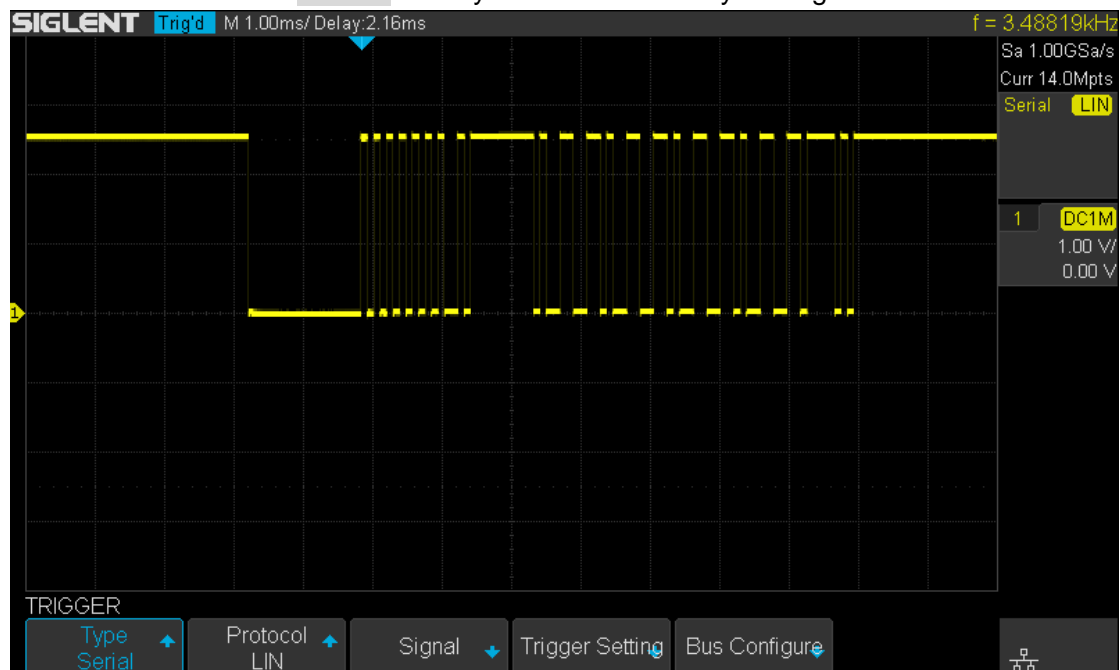

Figure 55 LIN Trigger
4. Press the **Signal** softkey to enter the **SIGNAL** menu as Figure 55 shows.